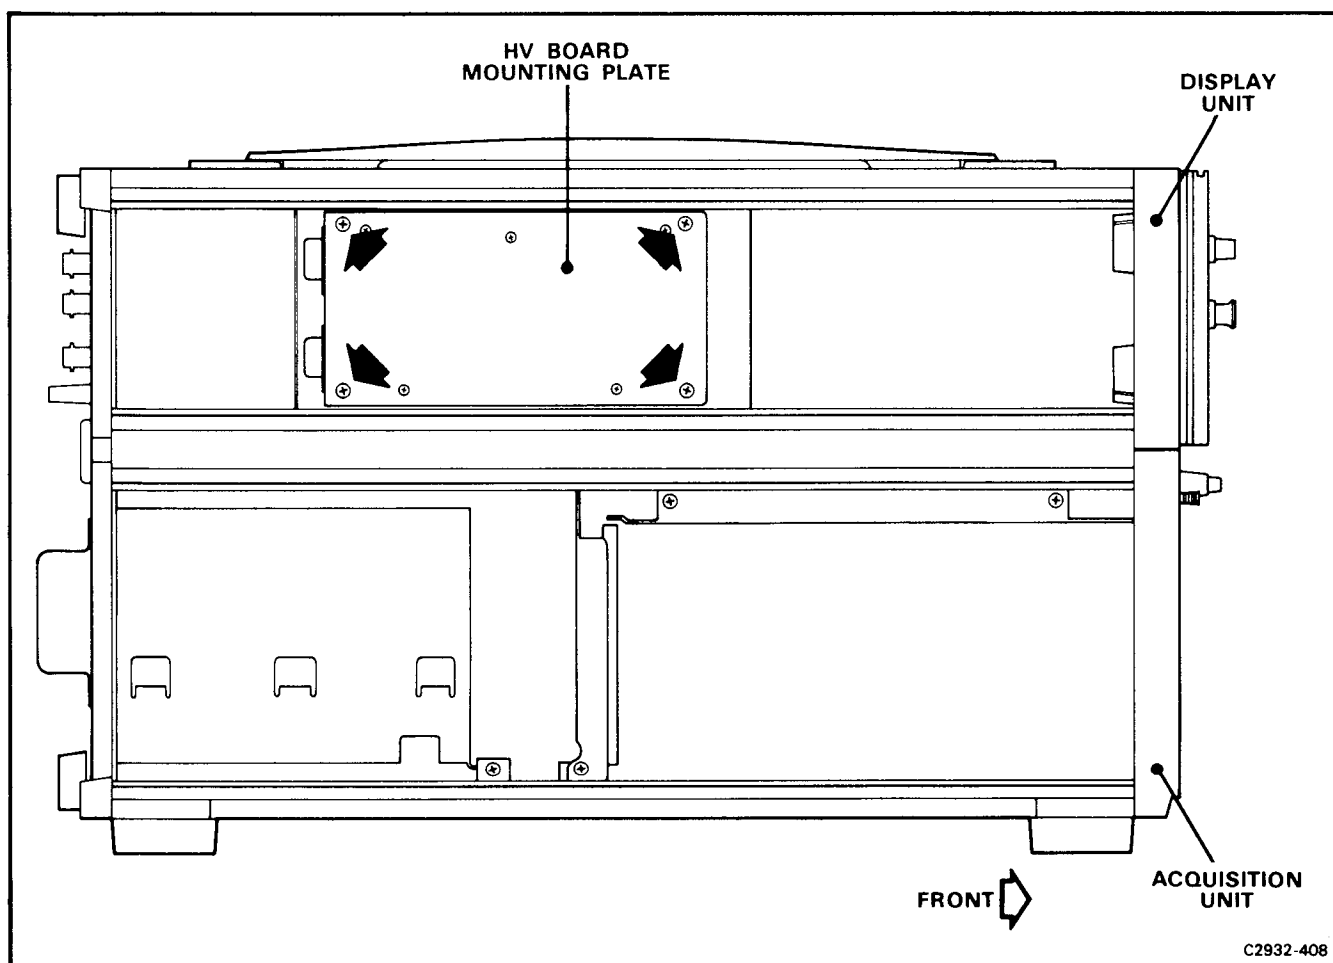

Figure 5-12. Screw locations for A4-H.V. board removal.
3. Remove the 4 screws shown in Figure 5-12. Then pull out the H.V. Assembly, locate the focus neck pin and disconnect it from the crt.
4. Remove the screws shown in Figure 5-12; then remove the mounting plate with A4-H.V. board attached.